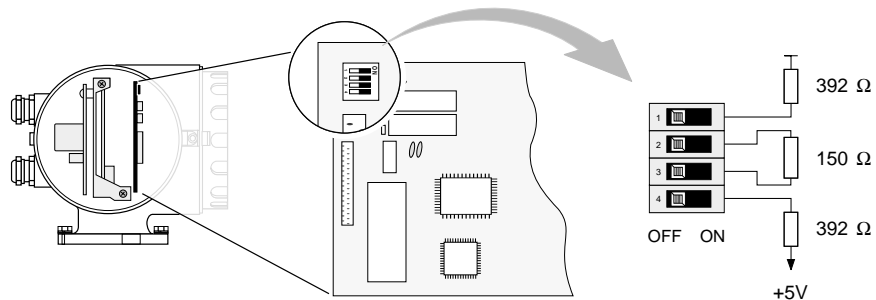

Fig. 17
2. Set terminating resistors if necessary (see Fig. 17)